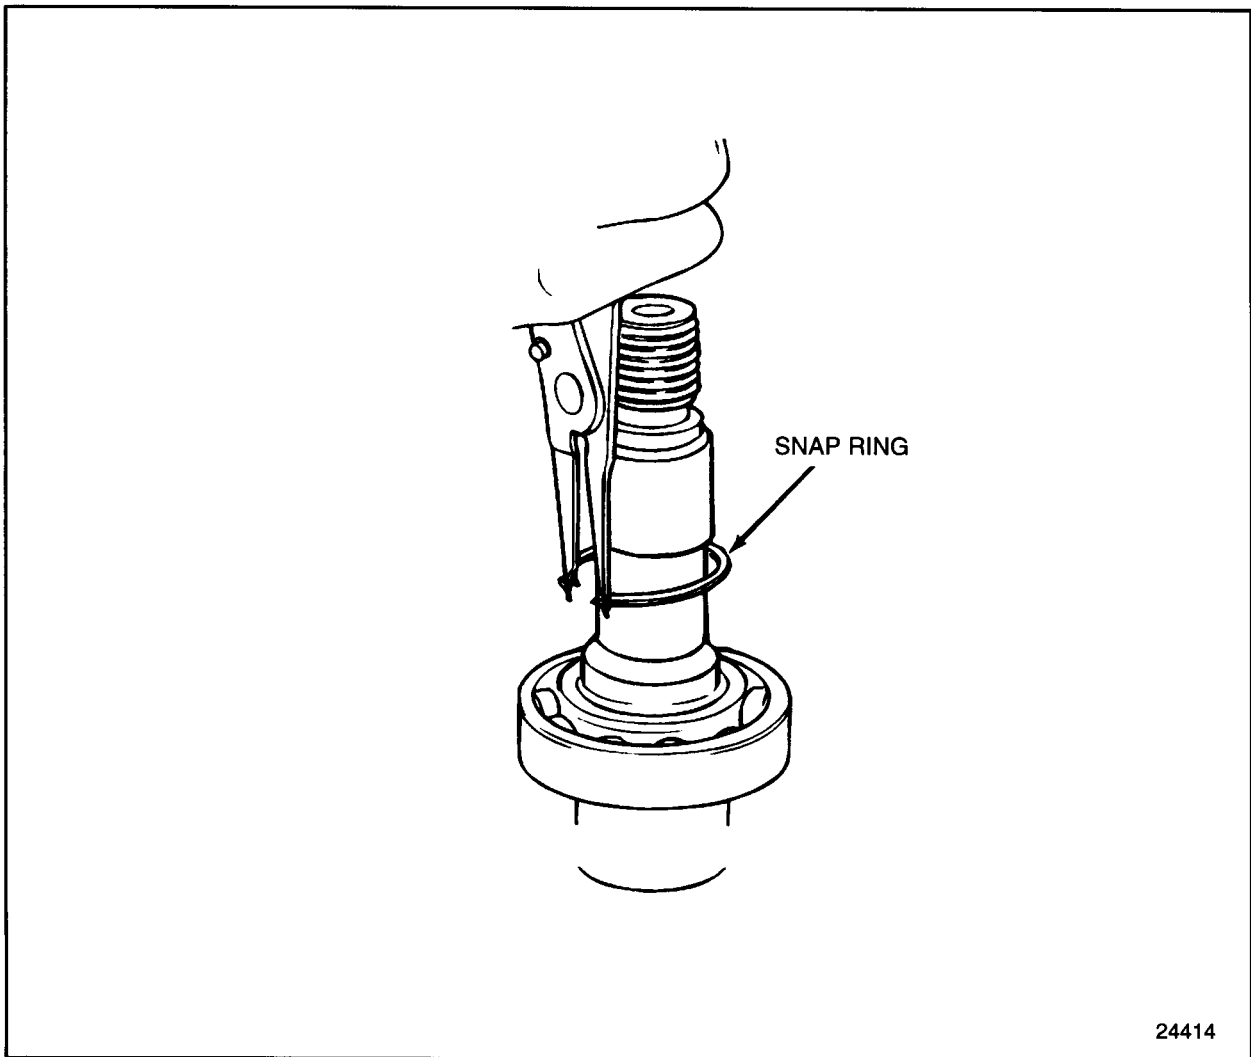

Figure 1-396 Snap Ring Removal
16. Remove the snap ring from the accessory driveshaft. See Figure 1-396.